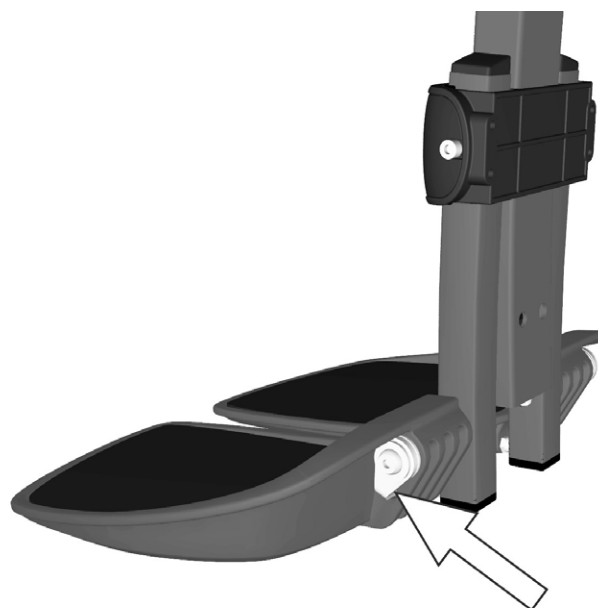

Figure 236. The friction brake's metal butt is in place in the intended hole in the footplate
2. Remove the screw holding the footplate in place. See fig. 236.
2. Assemble the footplate friction brake by sliding the parts onto the shaft. Make sure that the metal butt is positioned in the intended hole in the footplate. See fig. 236.